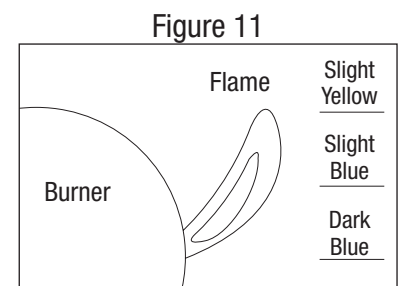

Figure 11
8. After lighting, observe the burner flame, make sure all burner ports are lit and flame height matches illustration. (Figure 11)